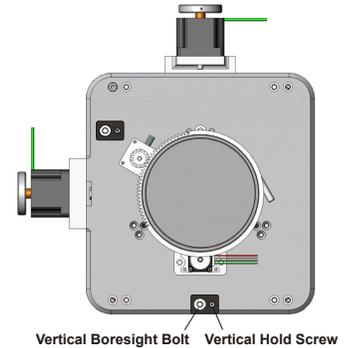

Figure 2-40 Vertical Boresight
1. Loosen the **Vertical Hold Screw**. See **Figure 2-40**.